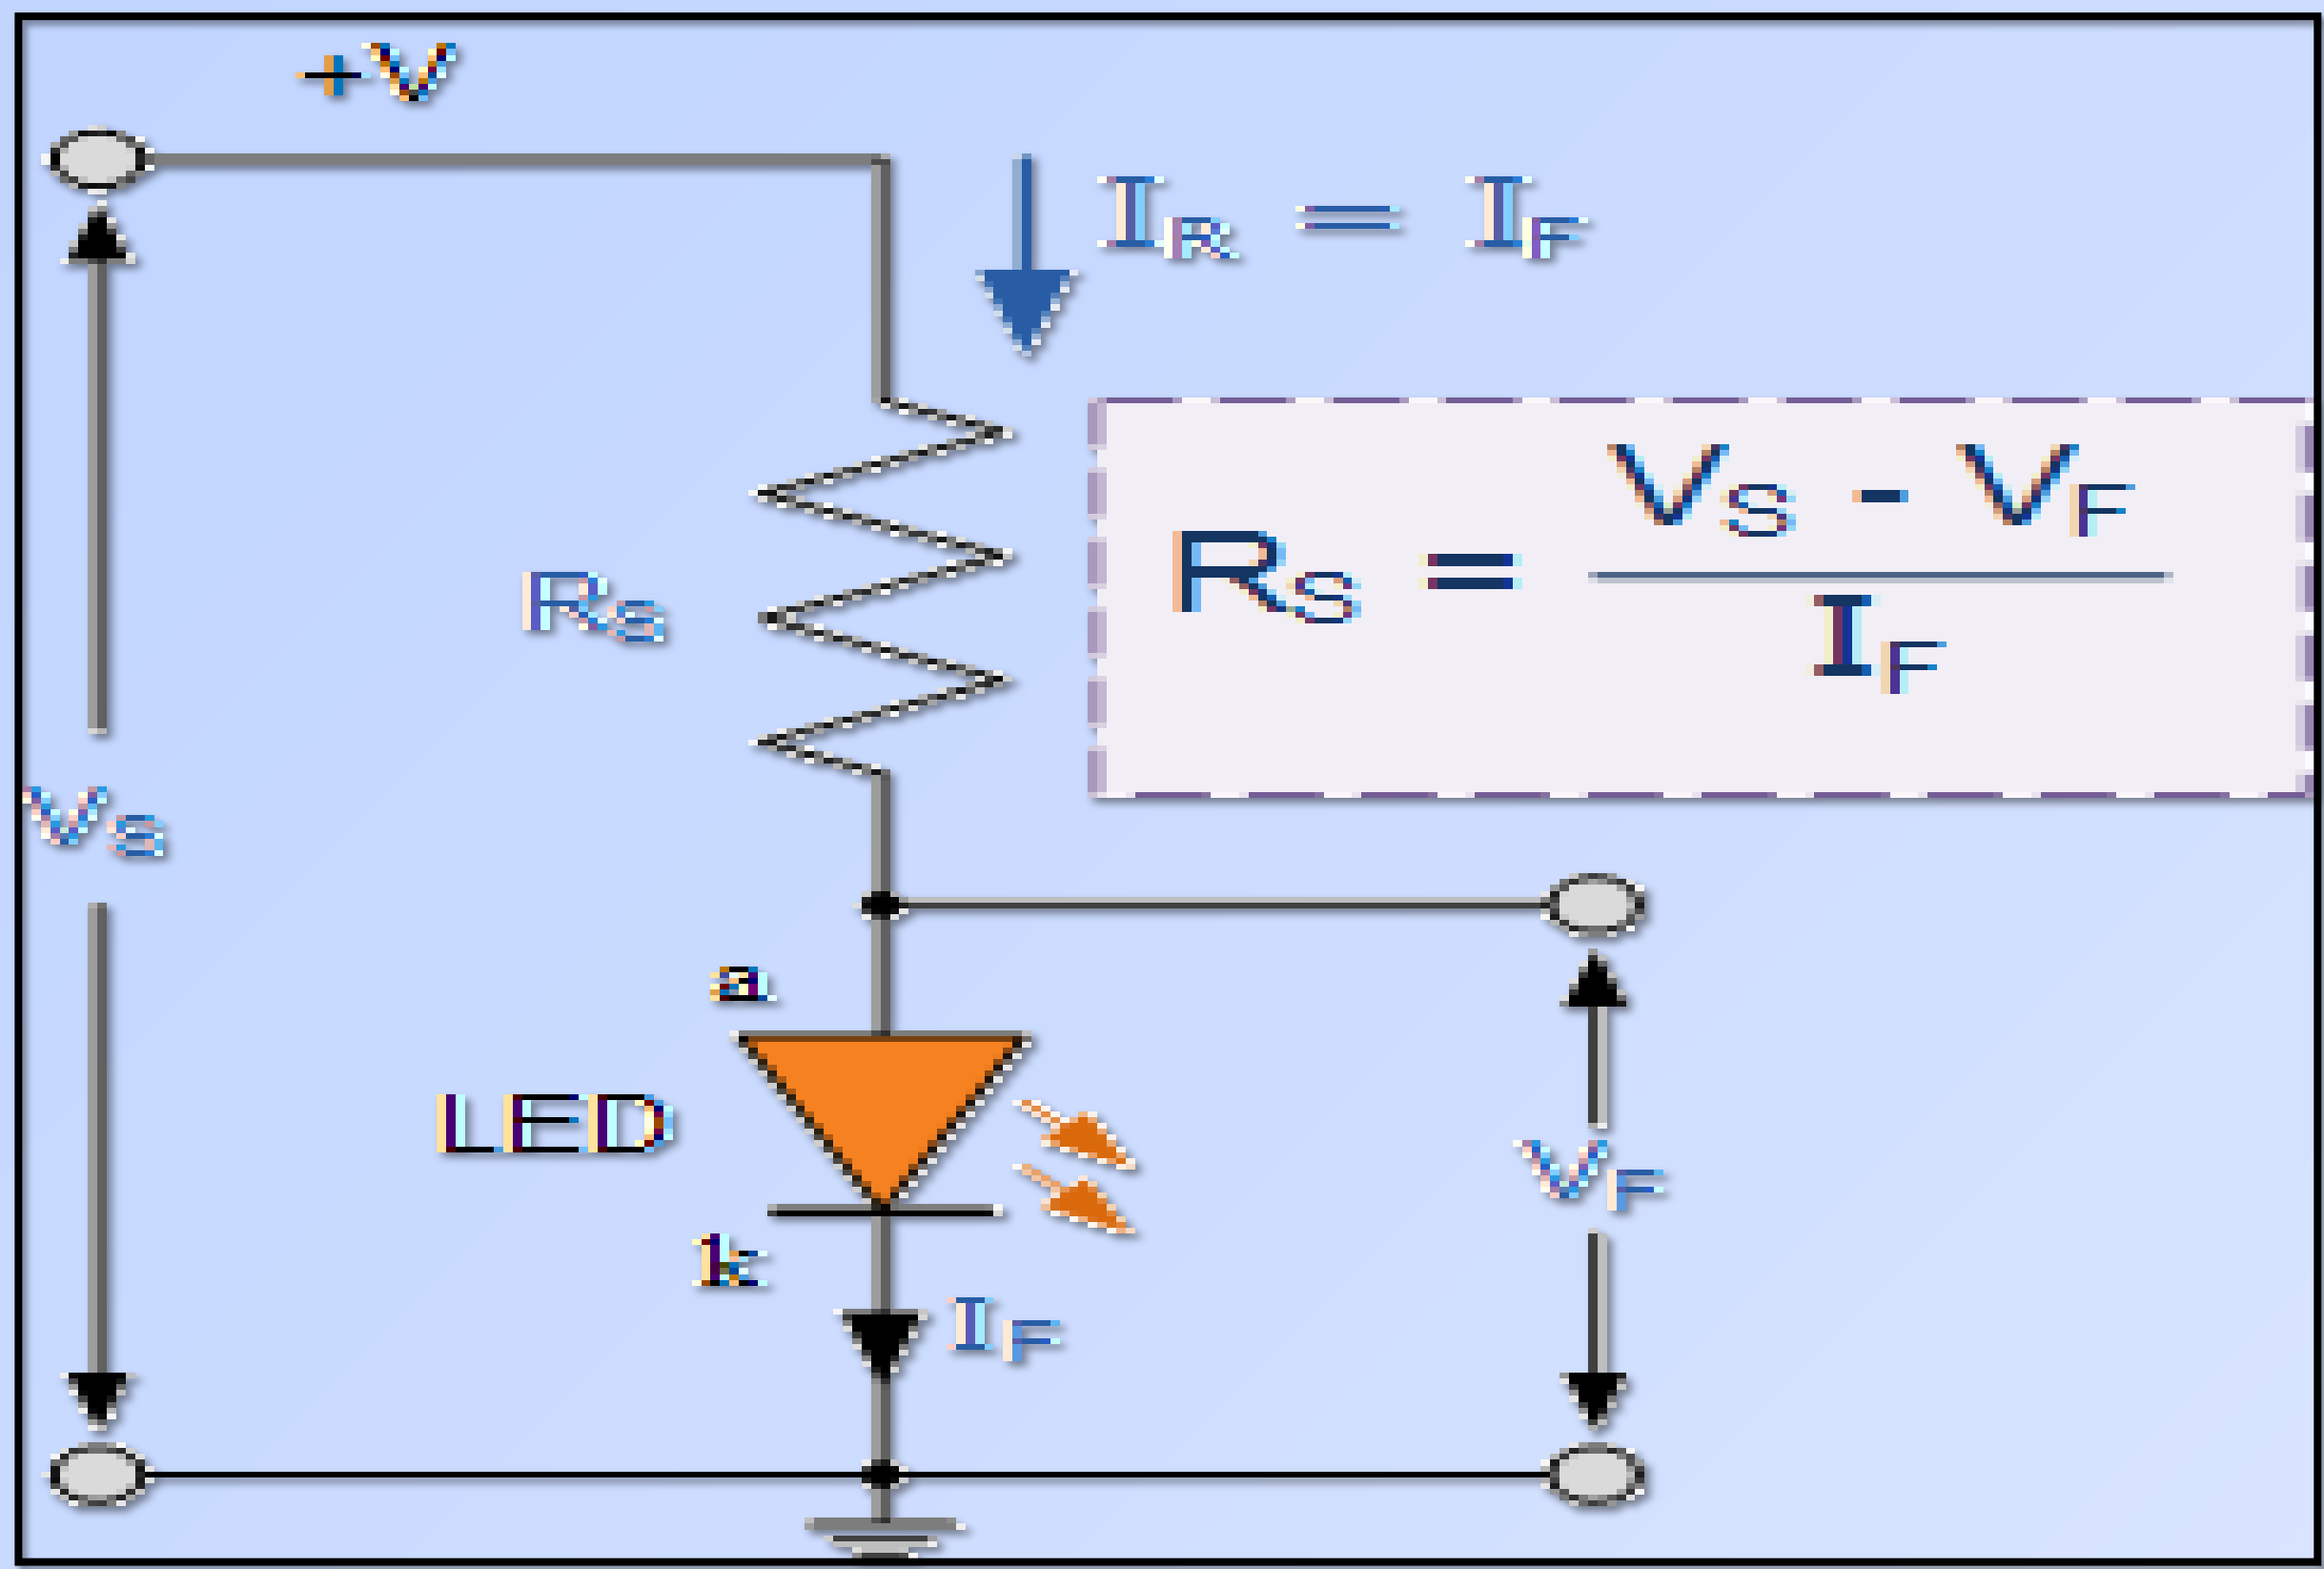

Figure3 LED Series Resistor Circuit
1. Connect the circuit shown in figure 3.